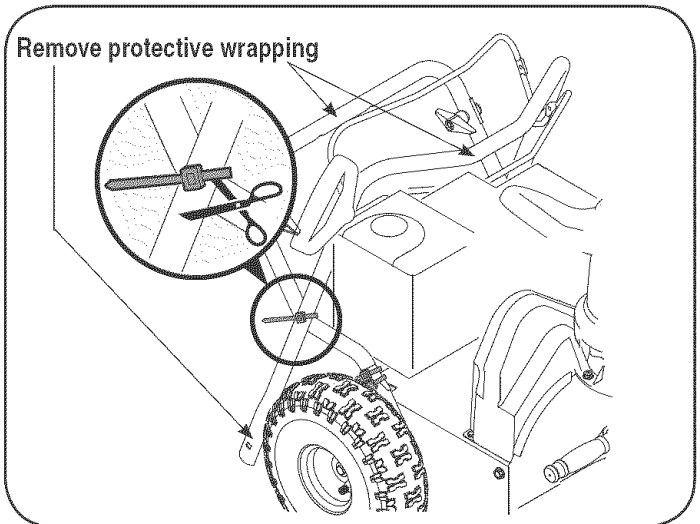

Figure 1
1. Remove cable tie securing upper handle to lower handle for shipping purposes. Remove all protective plastic wrapping from handles as shown in Figure 1.